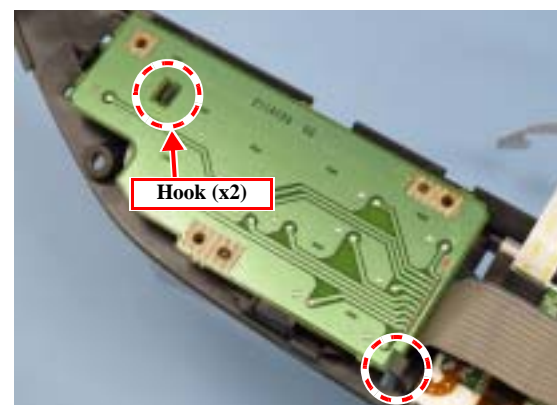

Figure 4-5. Removing the Panel Board
3. Release the hooks, and remove the Panel Board. (Fig. 4-5)